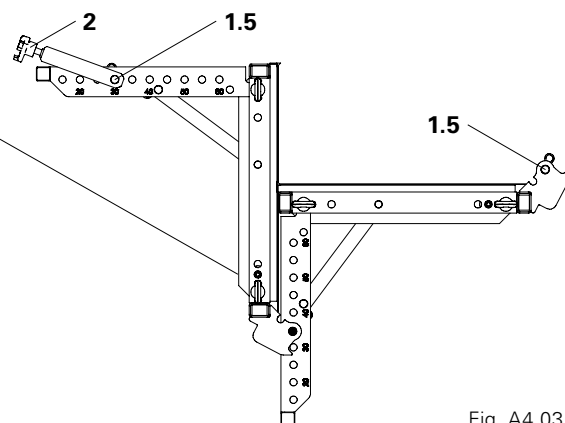

Fig. A4.03.
2. Mark out QUATTRO QR Frame Spanner (2) using the provided bolts  $\text{Ø } 20 \times 140$  (1.5).
- Example: column = 35 cm, Frame Spanner = 30 cm. (Fig. A4.03)